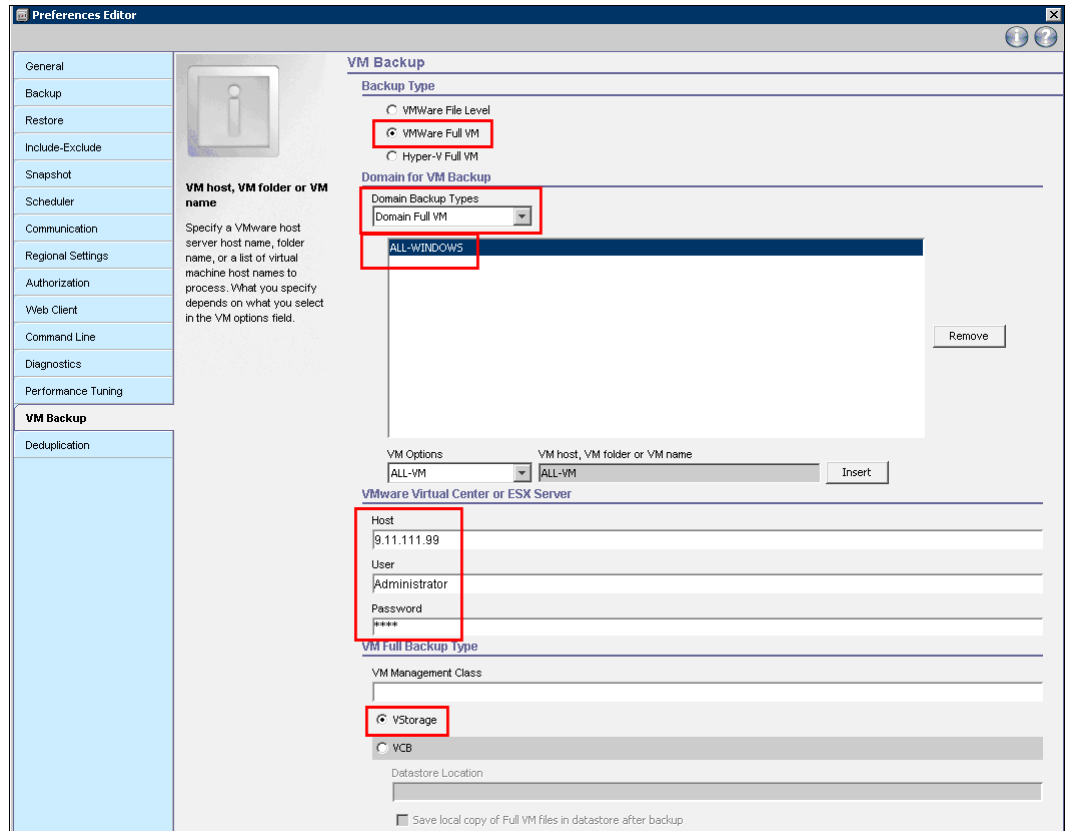

Figure 20-23 VM Backup window
2. From the menu at the left, click **VM Backup** (Figure 20-23).